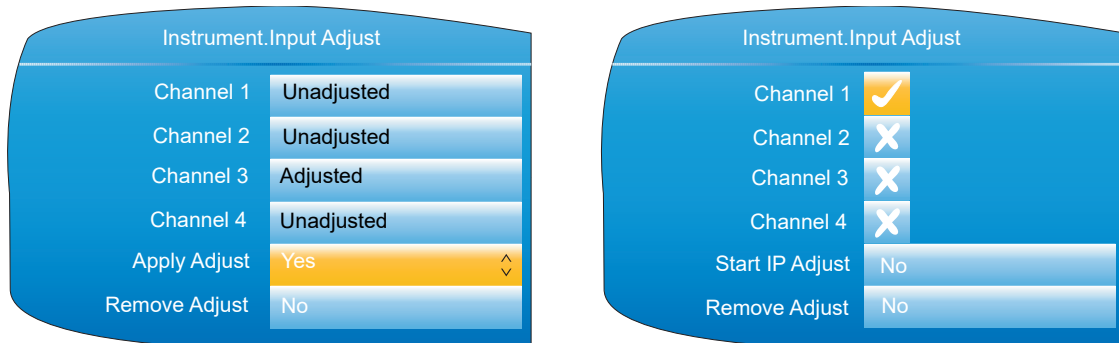

Figure 72 Channel adjustment procedure (1)
- As shown in Figure 72, highlight the 'Apply Adjust' field, and operate the scroll key to enter edit mode. Use the up or down arrow key to select 'Yes'. Use the scroll button to change Channel 1 'cross' to a 'tick' (check mark). Similarly select any other channels which require adjustment.